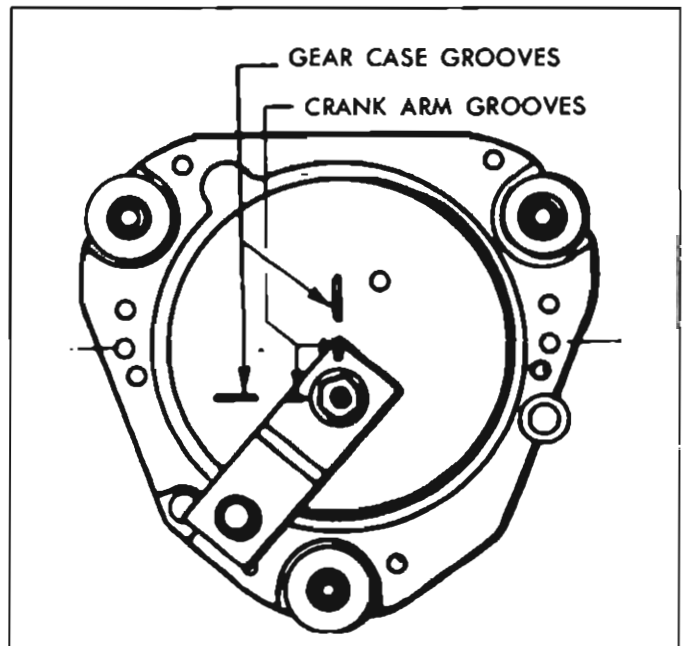

Fig. 8-15—Wiper Crank Arm in Park Position
2. Operate wiper to park position and install crank arm on output shaft so alignment marks line up with those on cover (fig. 8-15). Replace retaining nut, place crank arm in vise, tighten retaining nut.